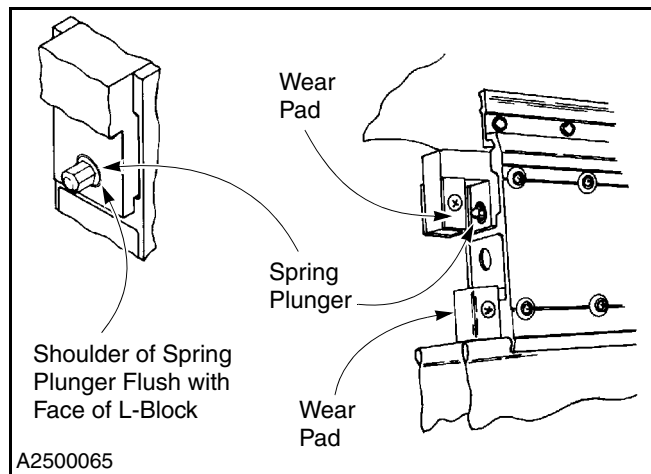

Figure 26
2. With both end brackets disconnected from the bottom bar assembly, check the wear pads on each end of the bottom bar for excessive wear or damage. Replace pads if required. (See Figure 26.)
NOTE: The normal position of the spring plunger is as shown in Figure 26. If your door is subject to high wind conditions, increase the holding strength of the plunger by adjusting it out a few turns. (Moving it too far out could make it difficult for you to reassemble the bottom bar.)